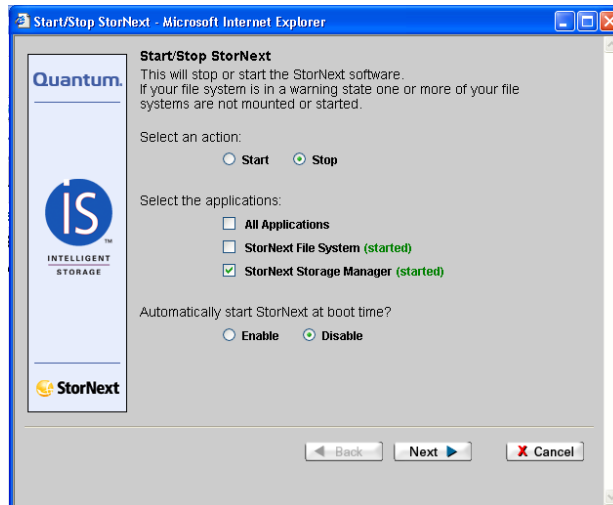

Figure 14.4-4. Stop StorNext Page
- The **Start/Stop StorNext** page will be displayed (Figure 14.4-4).